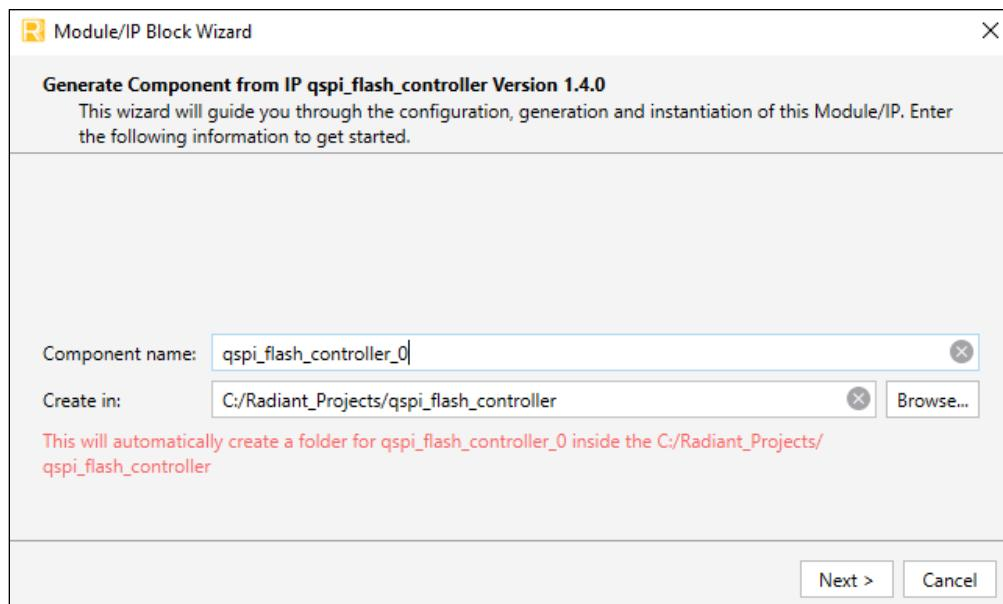

Figure 7.1. Module/IP Block Wizard
2. In the **IP Catalog** tab, double-click **QSPI Flash Controller** under **IP, Processors_Controllers_and_Peripherals** category. The **Module/IP Block Wizard** opens as shown in Figure 7.1. Enter values in the **Component name** and the **Create in** fields and click **Next**.
5. Click **Finish**. All the generated files are placed under the directory paths in the **Create in** and the **Component name** fields shown in Figure 7.1.